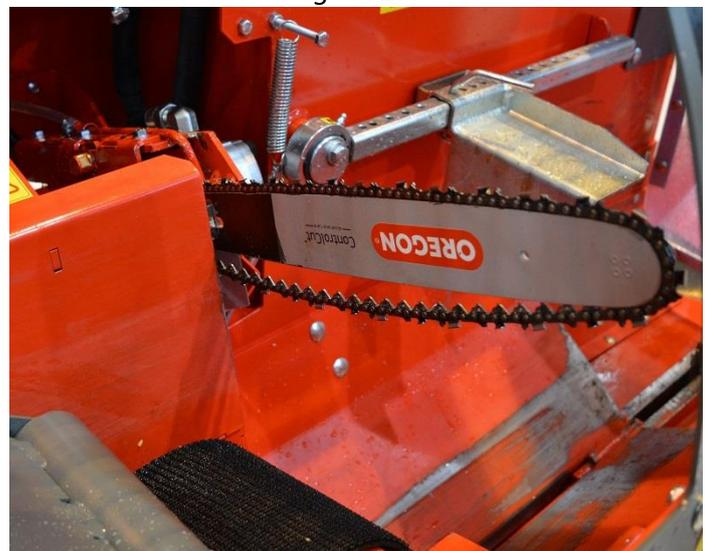

Figure 27a.
5. Pull the saw chain down to move the saw motor forwards and to loosen the chain, as shown in Figure 27a.